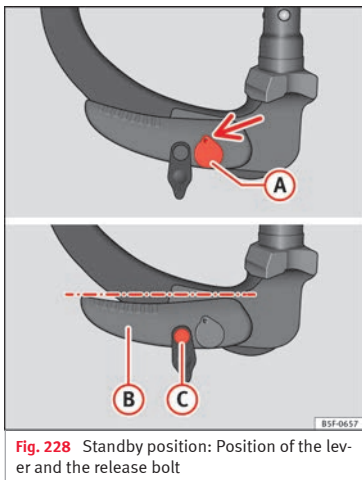

Fig. 228 Standby position: Position of the lever and the release bolt
- Key (A) » Fig. 228 is in the released position (the part of the key with the holes is facing upwards).
- Lever (B) » Fig. 228 is in the bottom position.
- The release bolt (C) » Fig. 228 can be moved.